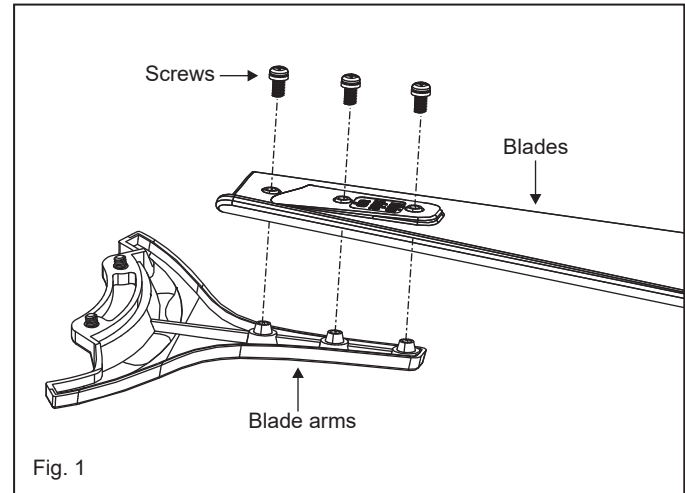

Fig. 1
- 1 Attach the blades and blade arms using the three blade attachment screws. Insert a blade attachment screws into the blade arm, but do not tighten. Repeat for the two remaining screws. (Fig. 1)
- 1 Remove one of the three screws on the mounting hub located on the fan motor. Loosen the other 2 screws. (Do not remove) (Fig. 1)